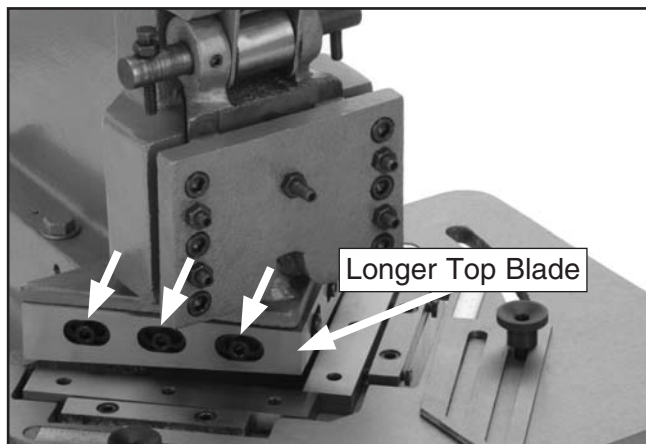

Figure 11. Longer blade alignment (guard removed for clarity).
1. Loosen the three cap screws that secure the longer top blade to the blade ram (**Figure 11**).